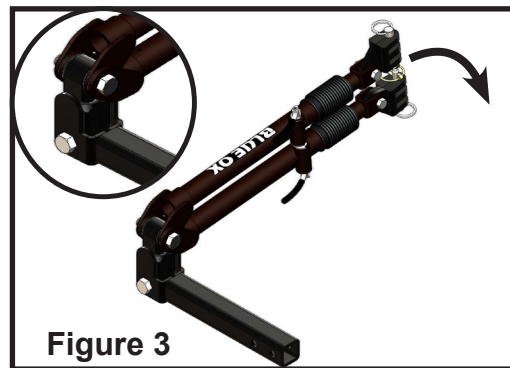

Figure 3
3. Rotate the legs down to either side until the ears of the leg capture the hold up tab of the hitch connector (Figure 3).